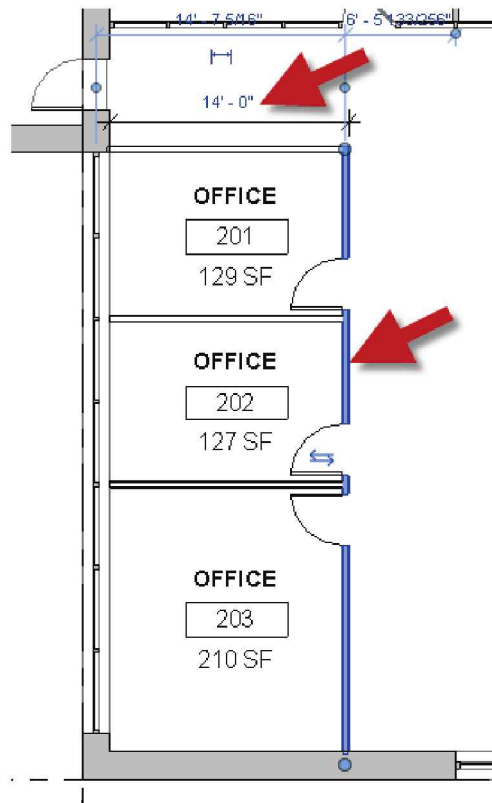

FIGURE 17-4.11 Wall adjusted by user B
19. Adjust the wall shown in Figure 17-4.11 from 18' – 0" to **14' – 0"**.